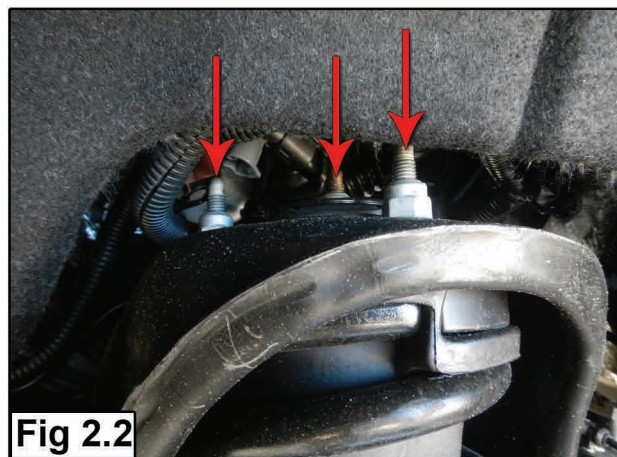

Fig 2.2
10. Use an 18mm wrench to remove 3 tall tower nuts in triangle arrangement. (Fig 2.2)